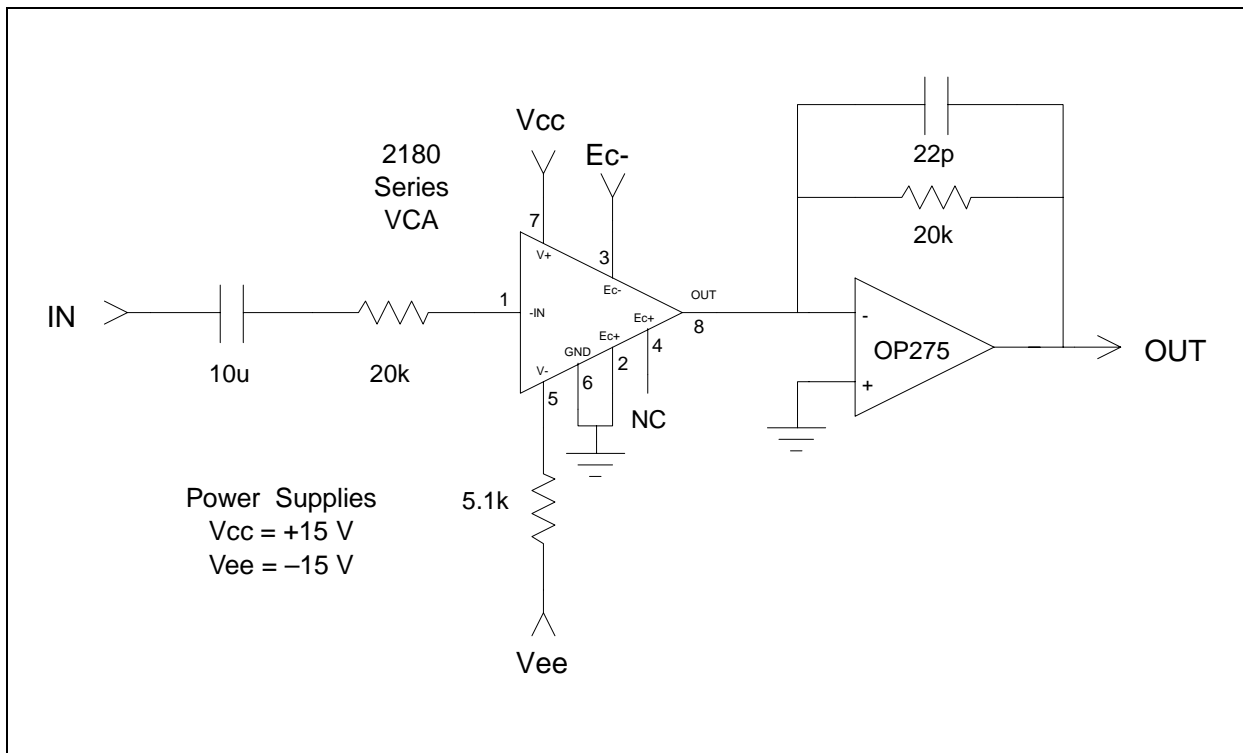
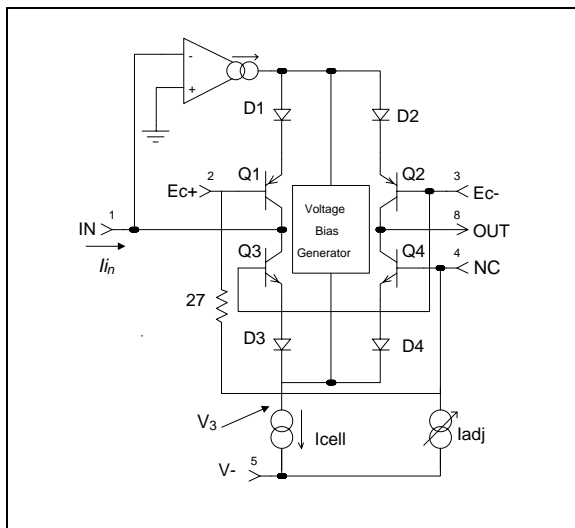
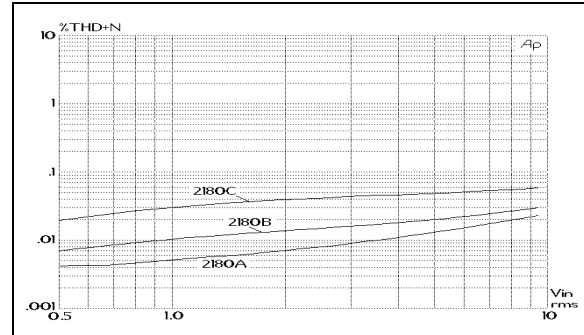
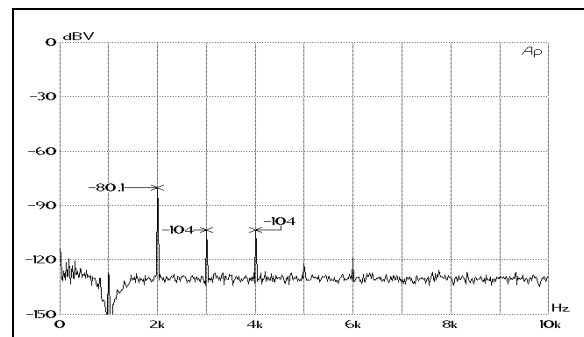

Figure 2. Typical Application Circuit
Figure 5. Simplified Internal Circuit Diagram
Figure 10. Typ. 1kHz THD+N vs. Input Level, 0 dB Gain
Figure 13. FFT of THD, 0dB gain, 1kHz, 0dBV, Typical 2180B
2. Unless otherwise noted,  $T_A = 25^\circ\text{C}$ ,  $V_{CC} = +15\text{V}$ ,  $V_{EE} = -15\text{V}$ . Test circuit is as shown in Figure 2.
Figure 5 presents a considerably simplified internal circuit diagram of the IC. The ac input signal current flows in pin 1, the input pin. An internal operational transconductance amplifier (OTA) works to maintain pin 1 at a virtual ground potential by driving the emitters of Q1 and (through the *Voltage Bias Generator*) Q3. Q3/D3 and Q1/D1 act to log the input current, producing a voltage, V3, which represents the bipolar logarithm of the input current. (The voltage at the junction of D1 and D2 is the same as V3, but shifted by four forward Vbe drops.)
The 2180 current consumption is determined by the resistor between pin 5 (V-) and the negative supply voltage ( $V_{EE}$ ). Typically, with 15V supplies, the resistor is 5.1 k $\Omega$ , which provides approximately 2.4 mA. This current is split into two paths: 650  $\mu$ A is used for biasing the IC, and the remainder becomes Icell as shown in Figure 5. Icell is further split in two parts: about 20  $\mu$ A biases the core transistors (Q1 through Q4), the rest is available for input and output signal current.
low distortion over a wide range of gain, cut and signal levels. Figures 10 through 12 show typical distortion performance for representative samples of each grade of the part. Figure 13 shows the harmonic content of the distortion in a typical B-grade part.
The Input pin (pin 1) is a virtual ground with negative feedback provided internally (see Figure 5, Page 4). The input resistor (shown as 20 k $\Omega$  in Figure 2, Page 3) should be scaled to convert the available ac input voltage to a current within the linear range of the device. Generally, peak input currents should be kept under 1 mA for best distortion performance.
Figures 10 through 12 show distortion versus signal level for the three parts in the 2180 Series for 0 dB, +15 dB and -15 dB gain. The circuit of Figure 2, Page 3 was used to generate these curves.
A designer may trade off noise for distortion by decreasing the 20 k $\Omega$  current-to-voltage converting resistors used at the input and output in Figure 2, Page 3. For every dB these resistor values are decreased, the voltage noise at the output of the OP275 is reduced by one dB. For example, with 10 k $\Omega$  resistors, the output noise floor drops to -104 dBV (typical) at 0 dB gain — a 6 dB reduction in noise because 10 k $\Omega$  is 1/2 of (6 dB lower than) 20 k $\Omega$ .
The Output pin (pin 8) is intended to be connected to a virtual ground node, so that current flowing in it may be converted to a voltage (see Figures 2 & 14). Choose the external opamp for good audio performance. The feedback resistor should be chosen based on the desired current-to-voltage conversion constant. Since the input resistor determines the voltage-to-current conversion at the input, the familiar ratio of  $R_f/R_i$  for an inverting opamp will determine the overall voltage gain when the 2180 is set for 0 dB current gain. Since the VCA performs best at settings near unity gain, use the input and feedback resistors to provide design-center gain or loss, if necessary.